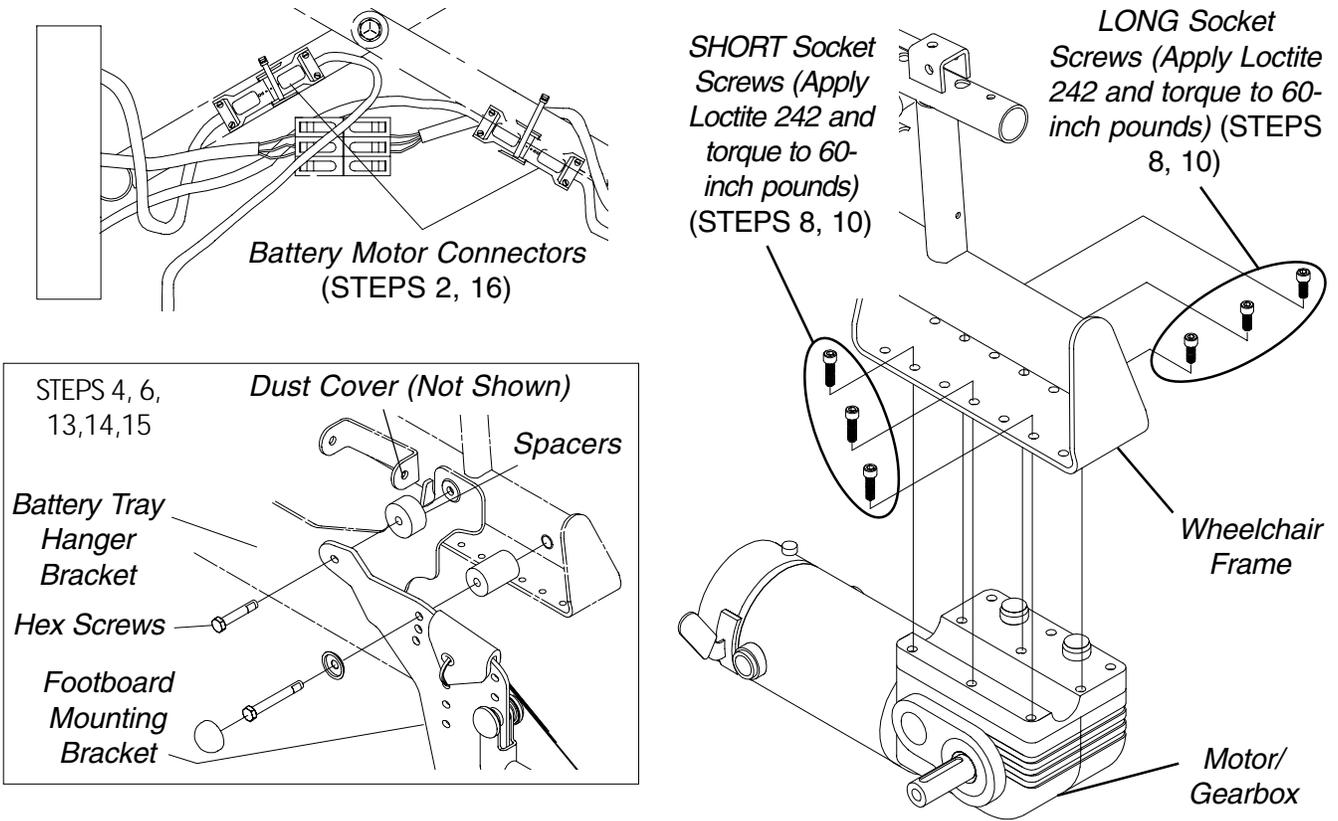

FIGURE 23 - REPLACING MOTOR/GEARBOX - RANGER II FWD - STANDARD
19. Perform one (1) of the following:
**REPLACING MOTOR/GEARBOX - R2STANDARD (FIGURE 23)**
4. Perform one (1) of the following:
8. Remove the six (6) socket screws that secure the existing motor/gearbox to the wheelchair frame.
9. Position the new motor/gearbox on the wheelchair frame at the position noted in STEP 6 as shown in FIGURE 23.